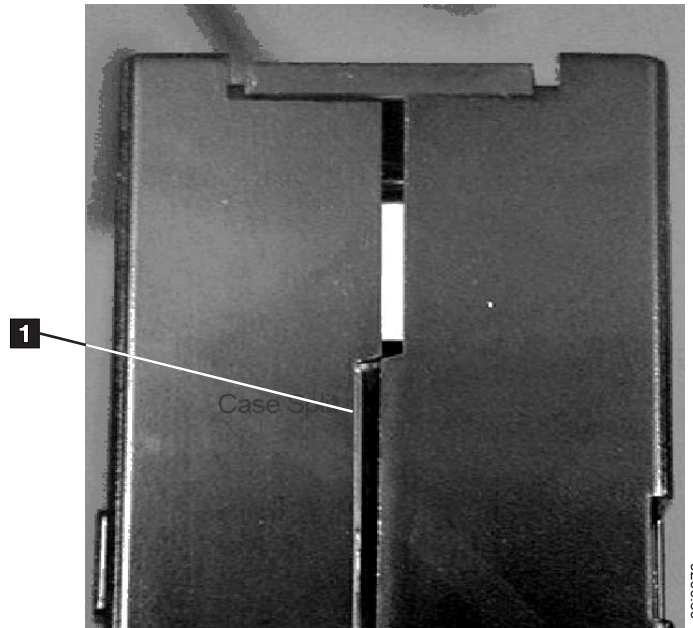

Figure 39. Checking for gaps in the seams of a cartridge
- Inspect the rear of the cartridge (the part that you load first into the tape load compartment) and ensure that there are no gaps in the seam of the cartridge case (see **1** in Figure 39 on page 227). If there are gaps in the seam, the leader pin may be dislodged and may need to be repositioned.